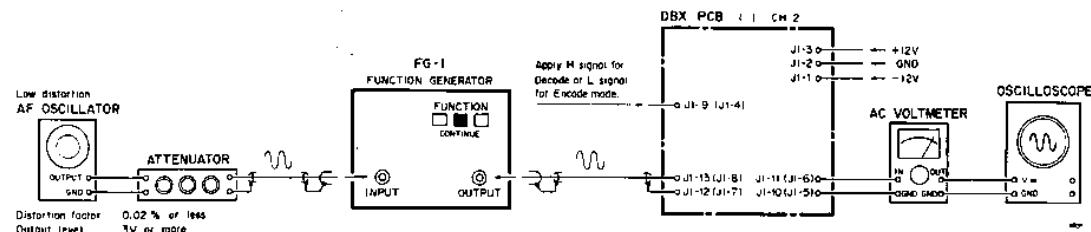

FIG. 40. RMS SYMMETRY & LEVEL ADJUSTMENTS
1. Apply +12 V to J1-3 and -12 V to J1-1 on the DBX PCB (refer to Fig. 40).
#### **A. RMS Symmetry Adjustment (Connections: Fig. 40)**
#### **C. Decoding Level (Connections: Fig. 40)**
#### **D. Frequency Response (Connections: Fig. 40)**
#### **F. Decode Effect Check (Connections: Fig. 40)**
#### **C. Encoding Level (Connections: Fig. 40)**
#### **F. Encode Effect Check (Connections: Fig. 40)**